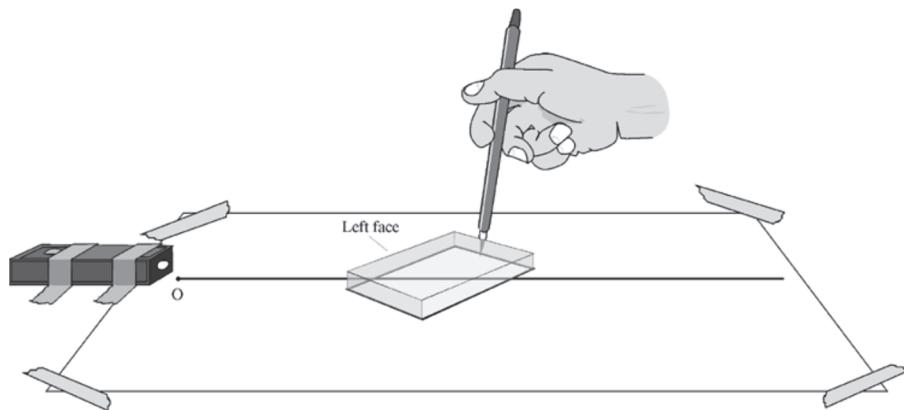

Figure 4 – Acrylic Block Set-up Illustrated
3. Place the acrylic block (LI-2) with the large surface down. The left face of the block should intersect the line on the paper at a 40- to 50-degree angle, and the light beam should hit the left face about 1 cm from its lower left corner. Hold the block firmly in place and draw an outline of the block on the paper. Refer to Figure 4.